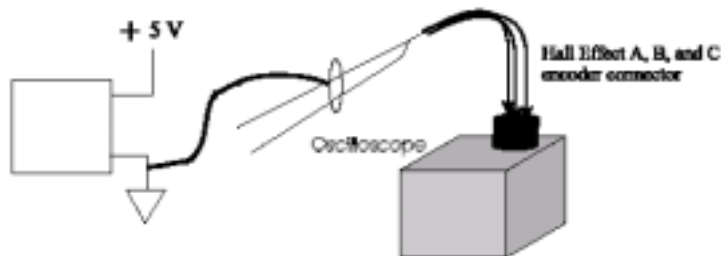

Figure 1-4: Encoder Phase Voltage Observation Scheme
3. Connect a 5V power supply to the power pins of the encoder (see *Figure 1-4*).